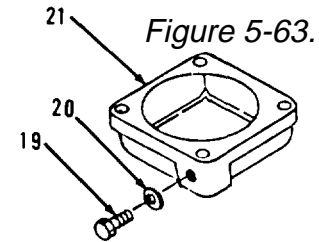

Figure 5-63.
2. Remove plug (19) and washer (20) from bonnet (21, Figure 5-63).
5. install washer (20) and plug (19) in bonnet (21, Figure 5-63).